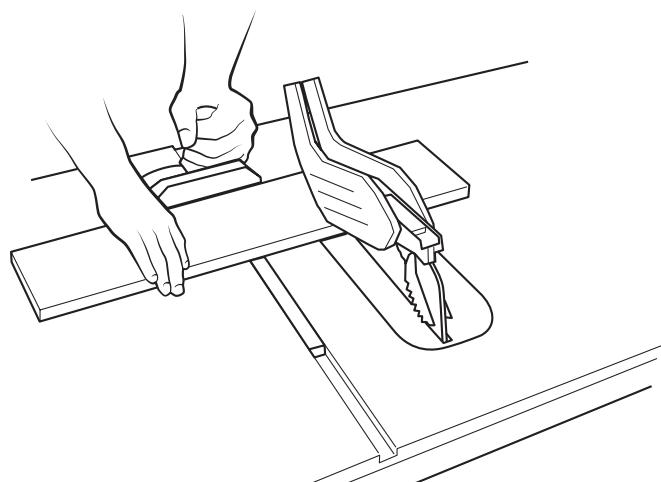

FIGURE 25
### TO MAKE A CROSSCUT, REFER TO FIGURE 25 AND FOLLOW THIS PROCESS:
Bevel crosscutting is the same as crosscutting except the bevel angle (A) is set to an angle other than  $0^\circ$ . When making a bevel crosscut, place the miter gauge in the right miter slot so that the blade is tilted away from the gauge and hands (FIGURE 25).